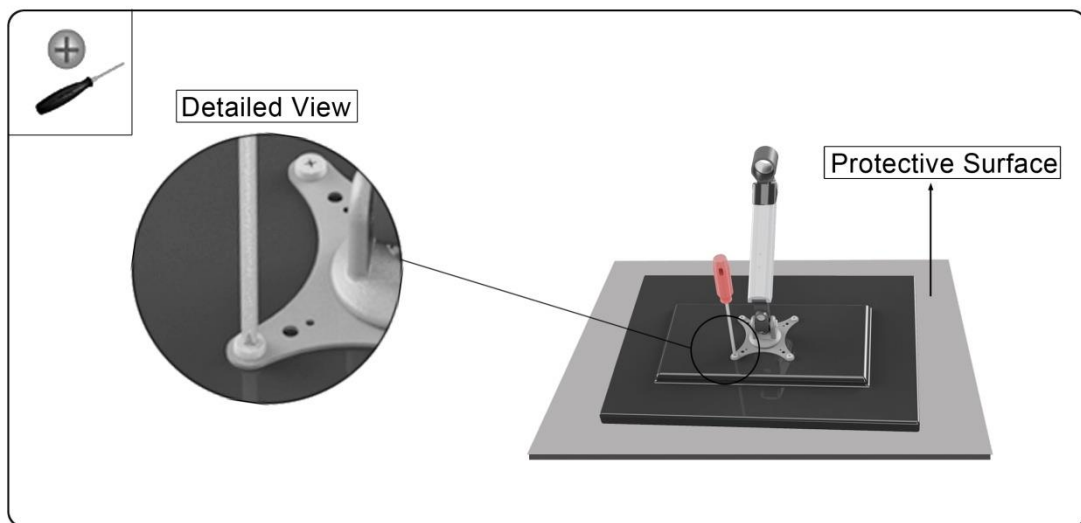

Figure 2-4
5. Using a Phillips screwdriver, tighten the screws until the VESA bracket is firmly attached to the monitor. Do not over-tighten the screws. Stop immediately once you encounter resistance (See Figure 2-4).